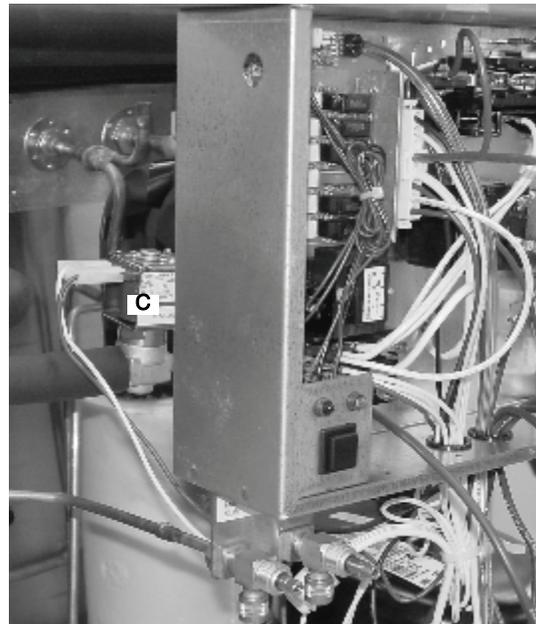

Figure 47.
56. Connect the hot gas valve harness (C) (white & red leads) to the hot gas valve (FIGURE 47).